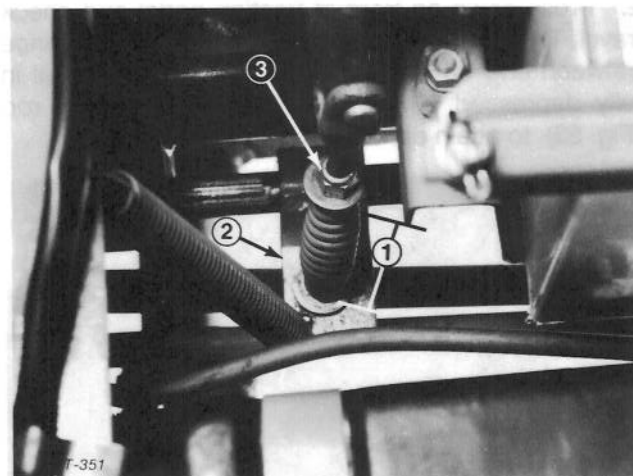

Figure 55
3. Measure length of PTO spring between flat-washers (Fig. 55). There should be a spring length of 3-3/16 inches (81 mm).
4. To adjust, hold head of adjusting screw with wrench (under PTO actuating arm) and turn locknut (Fig. 55).